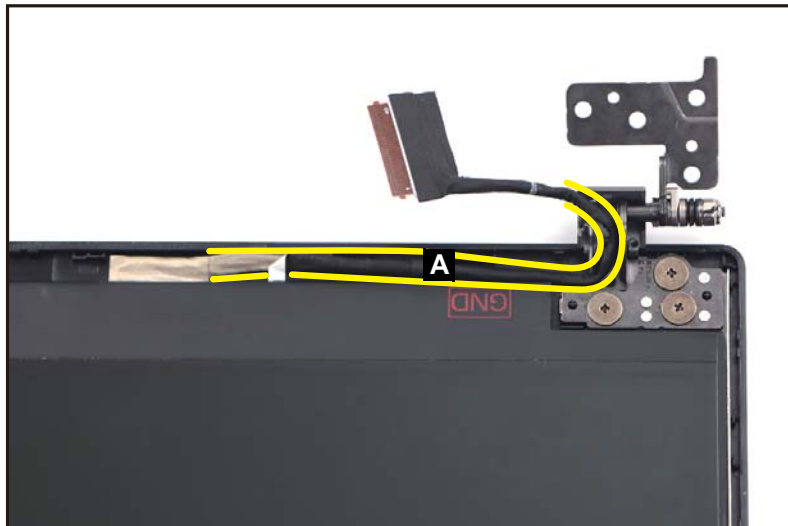

Figure 1-45. LCD Panel Removal
1. Unroute the LCD cable (A) from the bottom side of the cable guides on the LCD cover as shown in Figure 1-45.